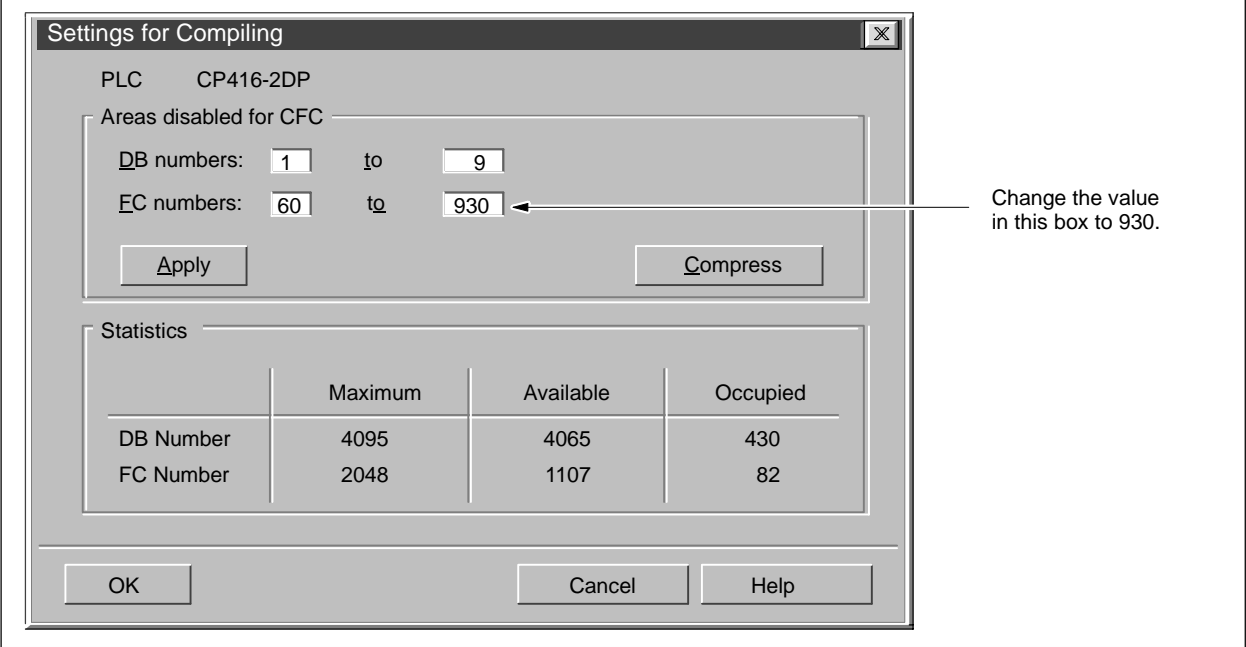

Figure 1-1 Settings for Compiling Dialog Box
3. Under the heading Areas Disabled for CFC, change the higher of the FC numbers to 930 or greater (Figure 1-1).